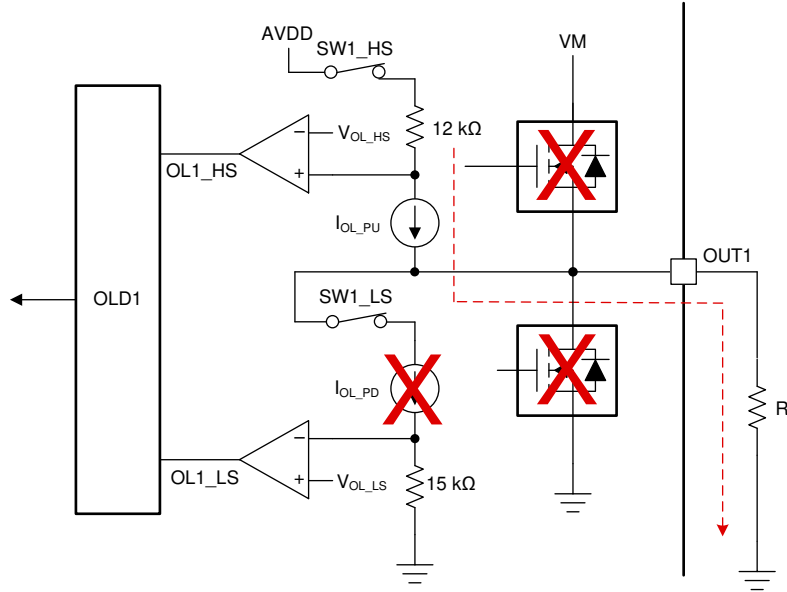
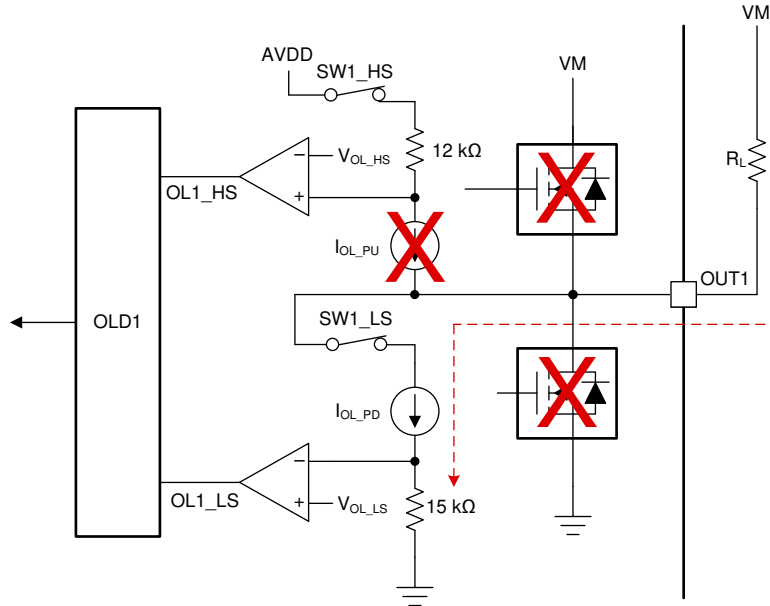

Figure 8-18. Open Load Detect Circuit for Load Connected to Ground (GND)
Figure 8-20. Open Load Detect Circuit for Load Connected to Supply Voltage (VM)
OLD circuit consists of four main components i.e. current source (and current sink), series sequencing switches (sequenced by the digital core), resistors and comparators. For ground (GND) connected load, the current source ($I_{\text{OL_PU}}$) pulls up the OUTx node to internal regulator voltage (AVDD) and allows the current to flow from internal regulator voltage (AVDD) to ground via the connected load as shown in Figure 8-18. Moreover, for the supply (VM) connected load, the current sink ($I_{\text{OL_PD}}$) pulls down the current from supply voltage (VM) to ground via the connected load as shown in Figure 8-20. The resistance of the load connected at the OUTx terminal will change the source / sink current and indirectly the voltage drop across two resistors (12-kΩ and 15-kΩ). This voltage drop across resistors is compared with the reference voltage ($V_{\text{OL_HS}}$ and $V_{\text{OL_LS}}$) by the internal comparators to give the output as OL1_HS and OL1_LS. This comparator output is fed to the open load digital circuit to determine the open load condition.
Figure 8-18 shows the ground connected load with internal OLD circuit. When high-side open load sequence is activated (i.e. SW1_HS is on and SW1_LS is off), the current source ($I_{\text{OL_PU}}$) pulls up the OUT1 node to internal regulator voltage (AVDD) and current flows from internal regulator voltage (AVDD) to ground via the connected load (R_L). Now, depending upon if the load is present or not, there can be three cases as follows:
8.2.3.3 OLD for Supply (VM) Connected Load
Figure 8-20 shows the supply (VM) connected load with internal OLD circuit. When low-side open load sequence is activated (i.e. SW1_HS is off and SW1_LS is on), the current sink (I_{OL_PD}) pulls down the OUT1 node to supply voltage (V_{VM}) and current flows from supply (VM) to ground via the connected load (R_L). Now, depending upon if the load is present or not, there can be three cases as follows: